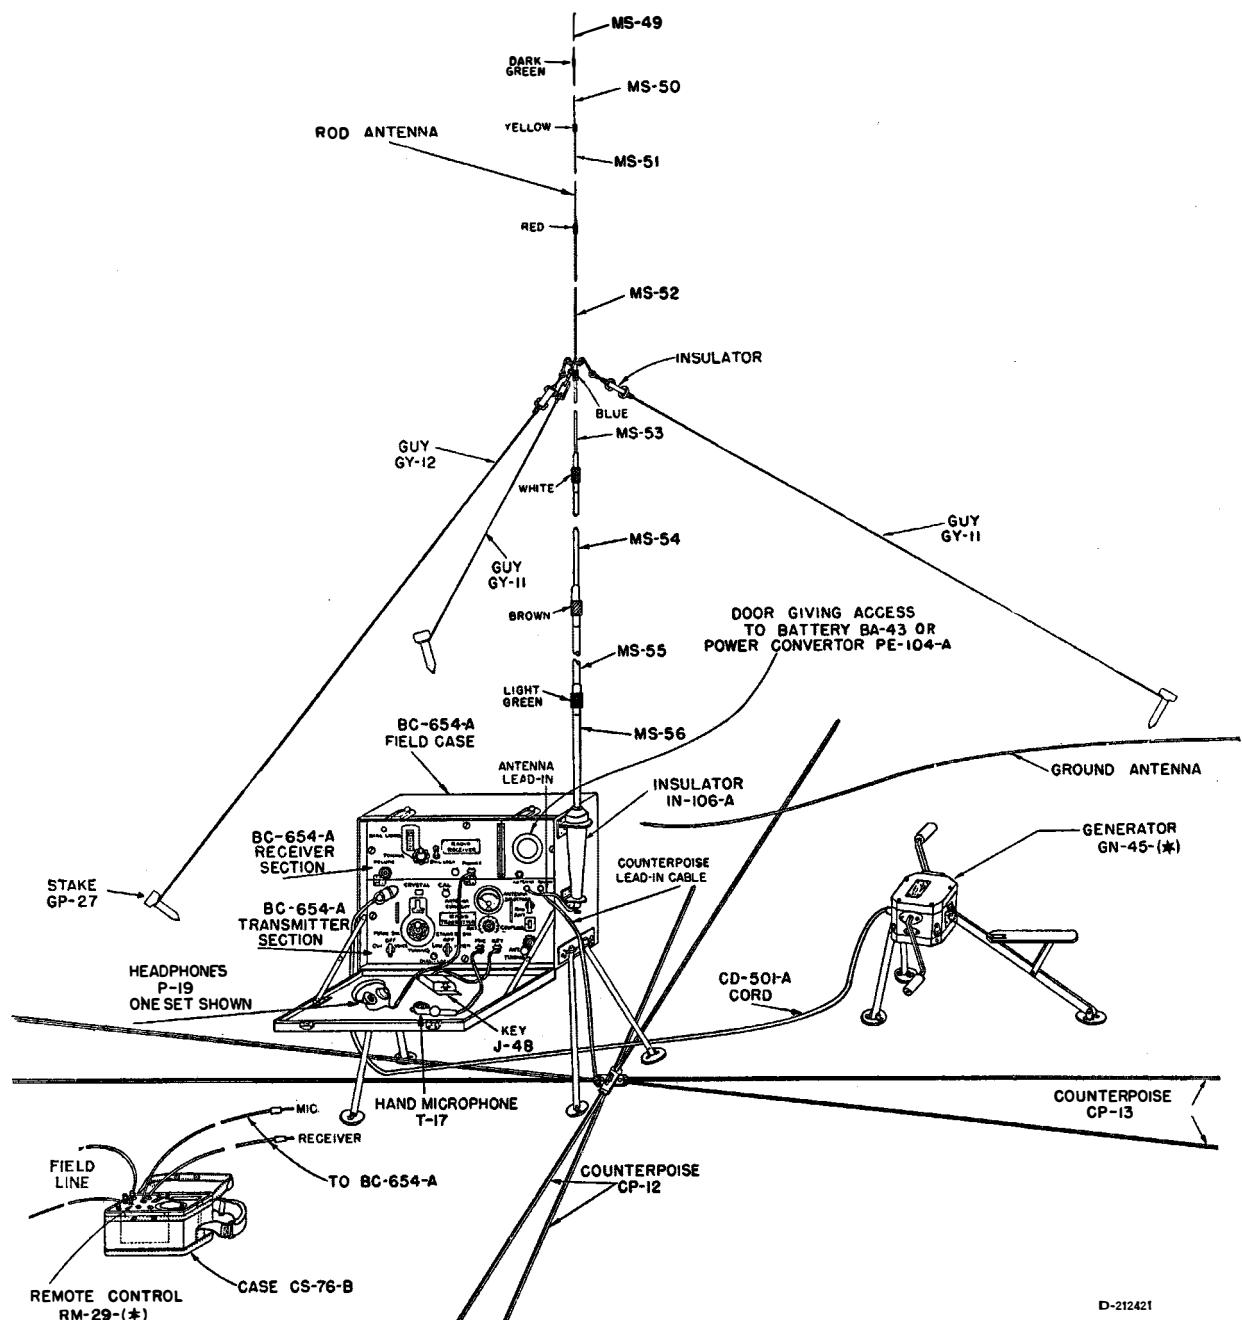

FIG. 8. RADIO SET SCR-284-A—FIELD INSTALLATION COMPONENTS
g. Antennas:— (FIG. 8)
- (1) Unroll Counterpoise CP-12, placing together the two wires which are on each end of junction, and lay them on the ground in opposite directions. (Sketch a.) Junction of wires must be placed on the ground directly under right end of Transmitter-Receiver Case. (See Figure 8.)
- (2) Unroll Counterpoise CP-13 similarly except crosswise to CP-12.
- (3) Using screw and wing nut on CP-12, fasten the two junctions together. (See Sketch b.)
- (4) Spread wires equally apart—"star shape." Note: SCR-284-A may be operated using only Counterpoise CP-12 (the one with lead-in wire attached), with wires spaced equally in four